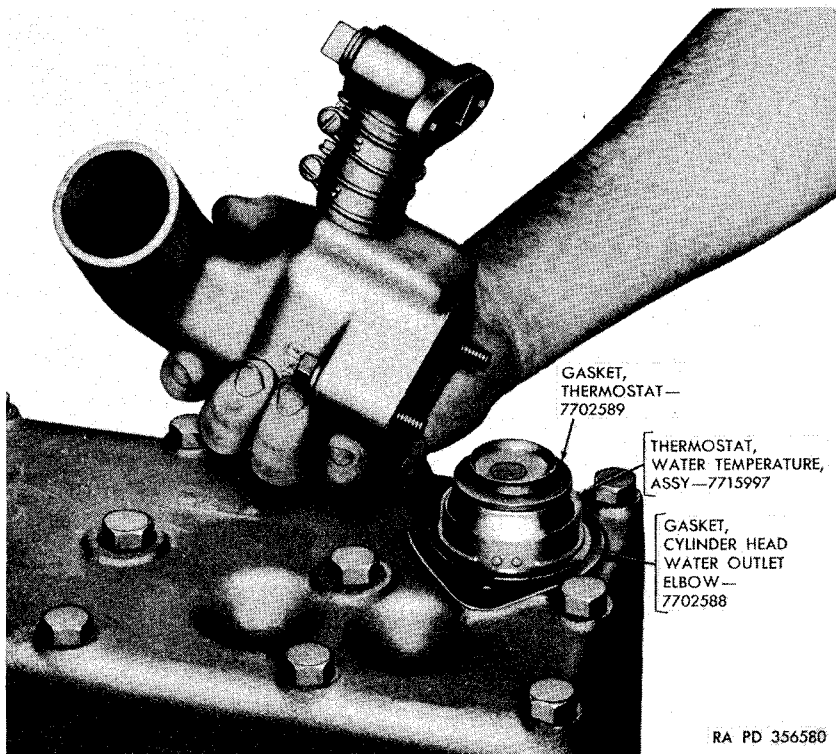

Figure 94. Installation of thermostat.
- (1) Install mounting bracket and place generator in position on bracket.
- (2) Install generator bolts, nuts, and lock washers, but do not tighten.
*n. Install Water Temperature Thermostat Assembly (fig. 94).* Install a new cylinder head water outlet elbow gasket on the cylinder head and place the water temperature thermostat assembly in position with openings at front and rear. The word "FRONT" on the thermostat must be installed toward the water pump. The gasket must be installed at the top of the thermostat before the water outlet elbow is assembled to the cylinder head. When the thermostat is operating properly, it should start to open at 157° to 162° F. and should be fully open at 183° to 187° F.